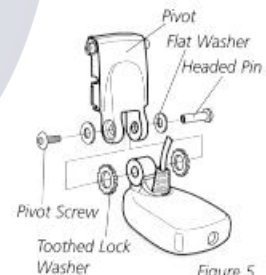

Figure 5
1. Attach the Pivot to the transducer body as shown in Figure 5, using the #8 – 3/8" (9mm) long allen headed pivot screw, the headed pin, the two flat washers, and the two toothed lock washers.